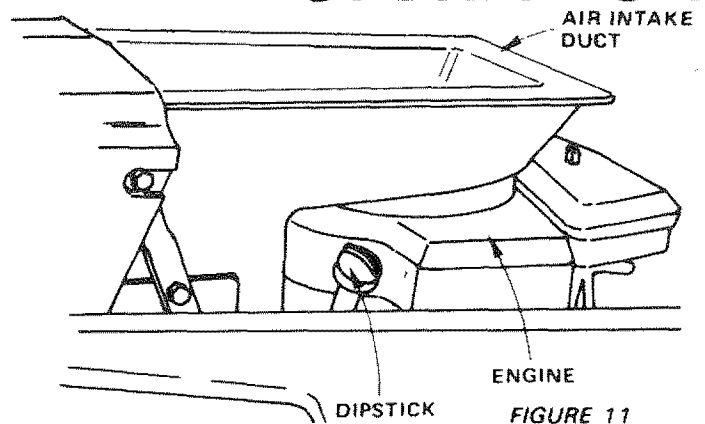

FIGURE 11
- This engine has been shipped filled with summer weight oil. For cold weather operation, see chart on page 16. Check engine oil level with tractor on level ground. Remove and wipe dipstick (Fig. 11) clean, push it in tight for a few seconds, remove and read oil level. If necessary, add oil until "FULL" mark is reached.
CAUTION: NEVER RUN THE ENGINE WITHOUT AIR INTAKE DUCT INSTALLED (FIGURE 11).